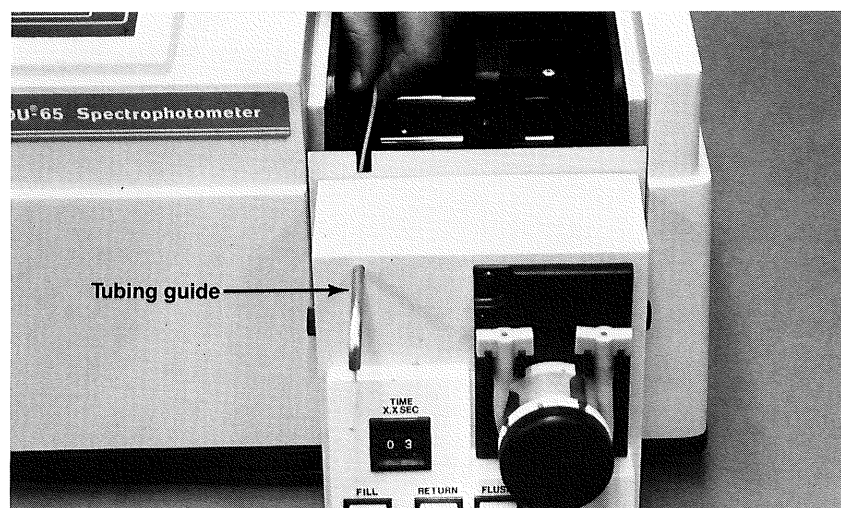

Figure 14.
17. Push the end of the inlet tubing to the outside of the sample compartment through the tubing guide, located on the upper left-hand corner of the sipper panel. See Figure 14.